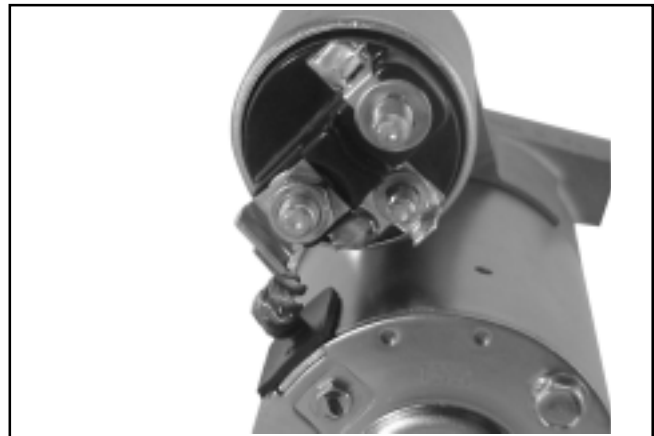

Figure 8-42. Positive (+) Brush Lead Connection.
14. Connect the positive (+) brush lead/bracket to the solenoid and secure with the hex. nut. Torque the nut to **8-11 N•m (71-97 in. lb.)**, do not overtighten. See Figure 8-42.